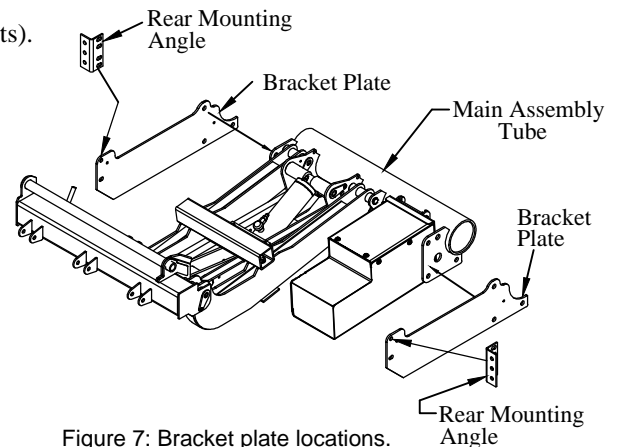

Figure 7: Bracket plate locations.
- 8. Install** the bracket plates on the main assembly using six (6) 5/8" x 1-1/4" bolts, lock washers, and nuts. The bolt head and lock washer should be on the outside (Figure 7).
- 9. Install** rear mounting angles with four (4) 1/2" x 1-1/4" bolts on the inside and four (4) lock washers and nuts on the outside (do not tighten). Position the rear mounting angles in the lowest position (higher set of slots).